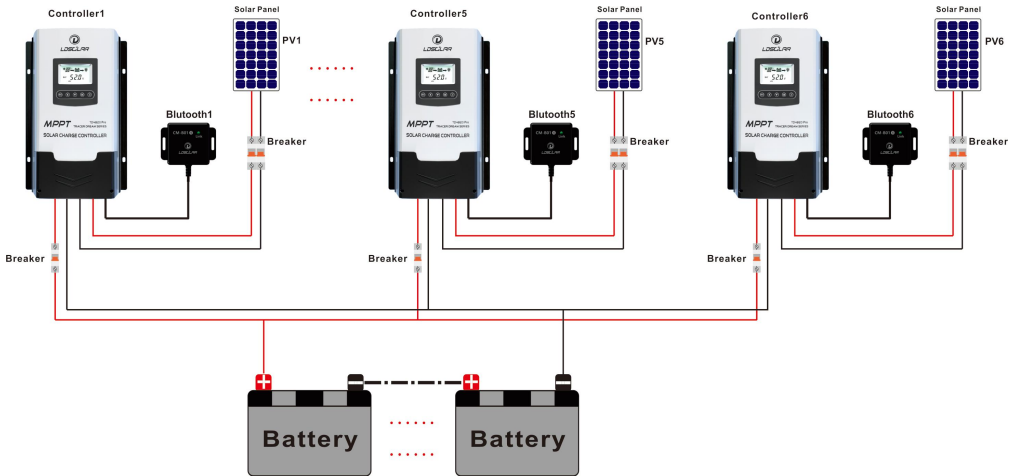

Figure 2-2 Schematic of wiring diagram
Connect the system in the order of ① battery ② PV array in accordance with Figure 2-2, "Schematic Wiring Diagram". and disconnect the system in the reverse order ②①
①Single controller
②Connection in parallel